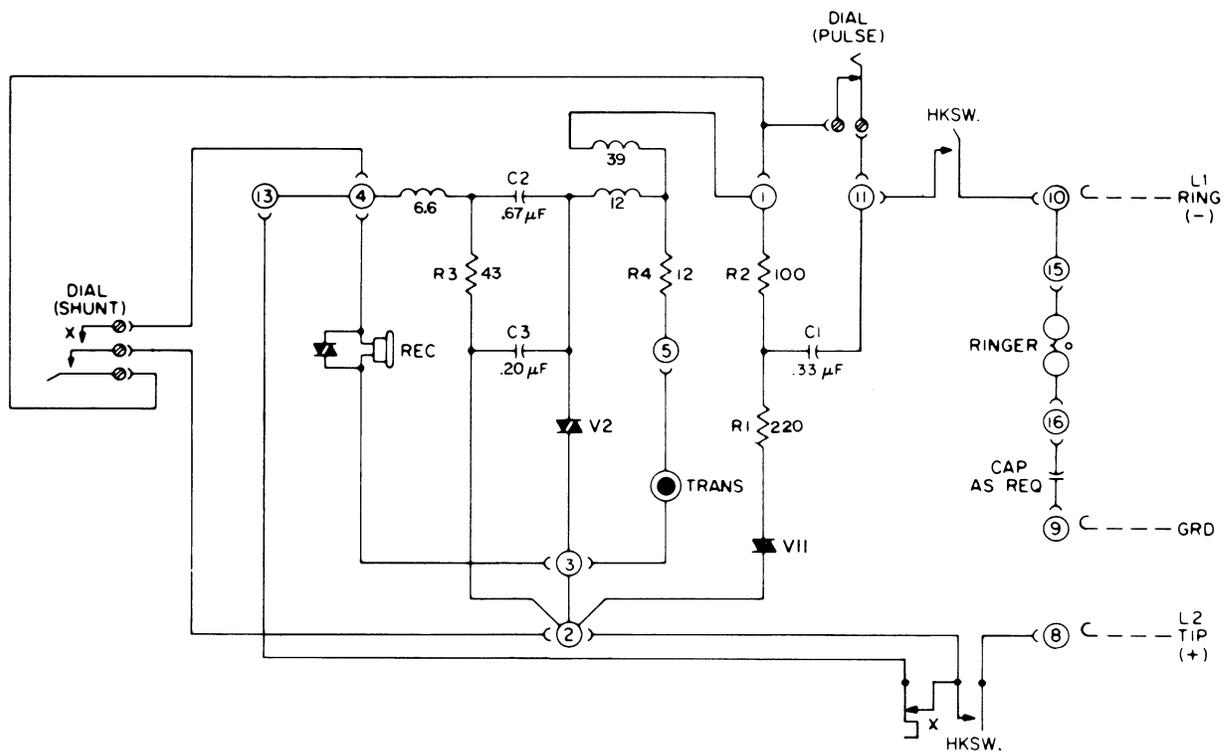
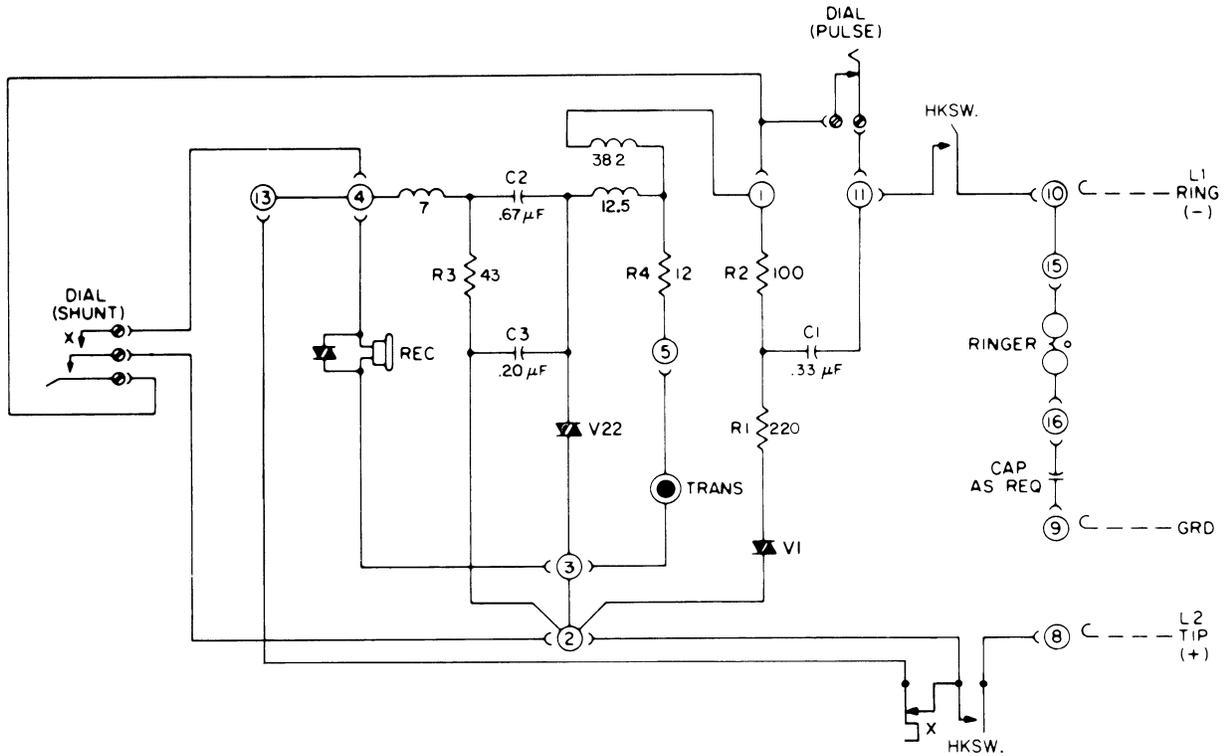
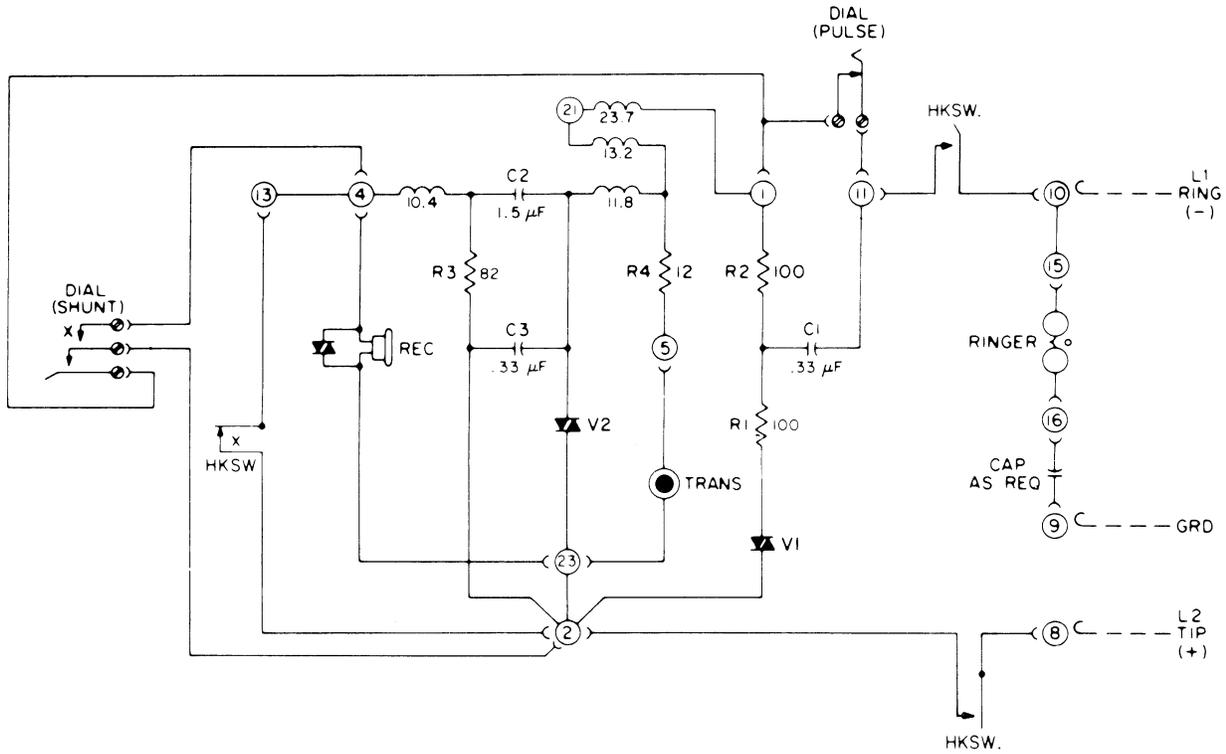

Figure 4. Schematic Diagram of Type 95 Set Equipped With Early Issues of WA-1120-A Network.
Figure 5. Schematic Diagram of Type 95 Set Equipped With Later Issues of WA-1120-A Network (Small Induction Coil).
Figure 6. Schematic Diagram of Type 95 Set Equipped With WA-1154-A Network (NC Series on Early Component Mounting Plate).
Types 10A1, 10A2 and 16A key telephone systems, and cannot be used to provide ringer ground identity mark at tip party stations in ANI exchanges. Provision of an individual lead per spring on early NC-series sets (see Figure 6) permits this assembly to be used for A-lead control. On NC-series sets manufactured subsequent to the offering of the Touch Calling option, a standard seven spring, seven-lead hookswitch assembly is provided, as shown schematically in Figures 7 and 9. In order to clear the chromed handset hanger on installation and removal, a large rectangular opening is required in the faceplate. To fill this opening when the faceplate is in place, a brushed aluminum cover plate is loosely attached to the component mounting plate behind the hanger and is slotted to fit around the shank of the hookswitch actuator.
2.04 Two tapped studs on the rear side of the lower left corner of the component plate provide for mounting the printed-circuit board version of transmission network, insulated from the panel by an L-shaped styrene bracket. On early NB-series sets the WA-1063-A network board, with a  $1\mu\text{F}$  capacitor in the dial pulse contact arc suppression filter, was used, but later instruments in this series were assembled with the WA-1120-A network using a  $.33\mu\text{F}$  capacitor in the dial filter as shown in Figure 4. Early issues of this network had the same coil as on the WA-1063-A, but a smaller coil was later adopted and involved some changes in winding values, as shown in Figure 5. With both of these networks a Type 810 handset was provided, the J-hook strain relief of its cord secured in a piercing at the lower left corner of the mounting plate. NC-series sets use the WA-1154-A network (see Figures 6 and 7) for dial service, or the WA-1155-A network in the Touch Calling option, where no dial filter capacitor is provided (see Figure 9). Figure 8 shows a schematic for an NB-Series Type 95 set equipped with an old Touch Calling unit. For replacement purposes the WA-1154-A board may be used in either service. On this series the Type 811 handset is furnished. With either handset, a white rubber grommet